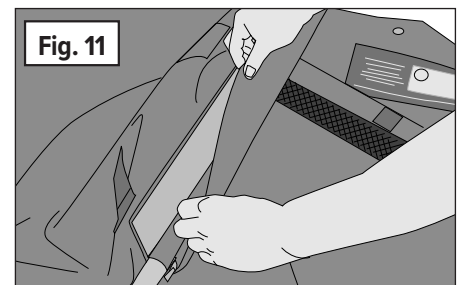

Fig. 11
4. **(Fig. 11)** When side tube is completely inserted, remove the plugs and secure the upper Velcro flap.